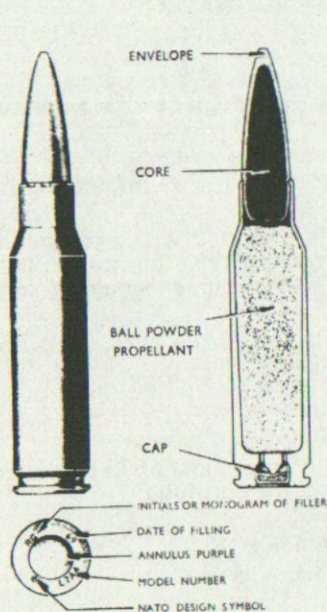

Fig 80 – 7.62-mm Ball
2. The complete round comprises the bullet, cartridge case with percussion cap, and the propellant charge. (See Fig 80).